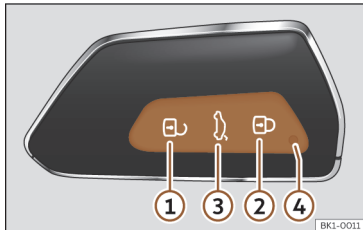

Fig. 64 Vehicle key
When a button is pressed briefly on the vehicle key, the control lamp ④ >>> Fig. 64 flashes once briefly, but if pressed for a long period of time, it will flash several times, for example, in the convenience opening.